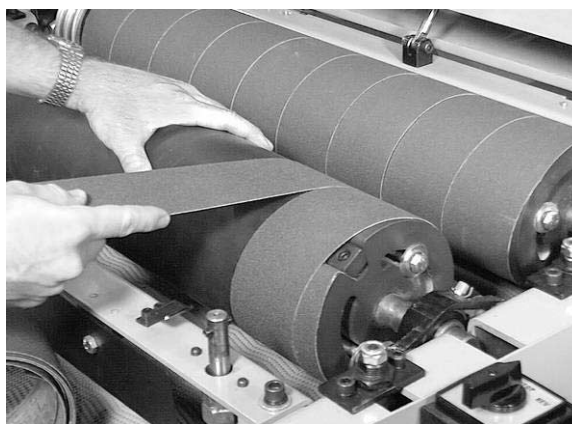

Figure 6
6. Begin wrapping the strip around the drum, keeping it taut as you go. The tapered cut of the strip should follow the right edge of the drum. Continue to wrap the abrasive in a clockwise spiral fashion by rotating the drum with your left hand and guiding the strip with your right hand (Fig. 6). Successive windings of the strip should be flush with previous windings without any overlap.